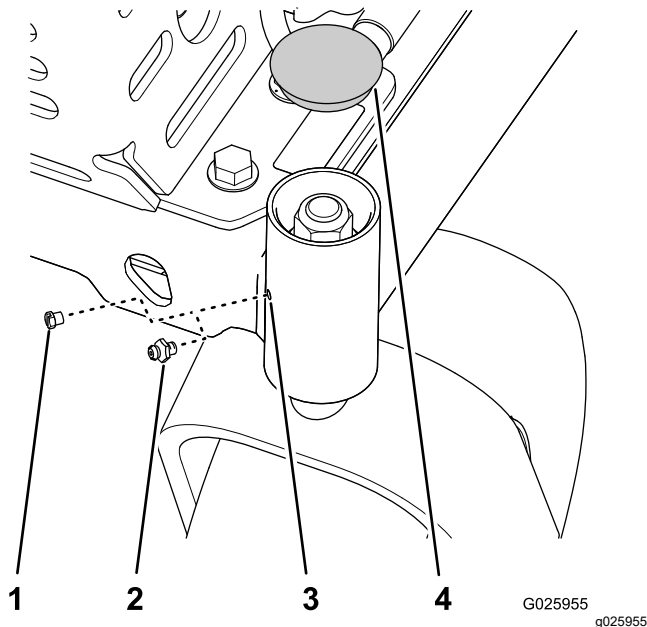

Figure 25
1. Remove cap and hex plug from the top of the caster pivot (Figure 25).
2. Thread grease fitting in hole (Figure 25).
3. Pump grease into the fitting until grease oozes out around top bearing (Figure 25).
4. Remove grease fitting and install the plug that you removed in 1 (Figure 25).
5. Install the cap that you removed in step 1 (Figure 25).